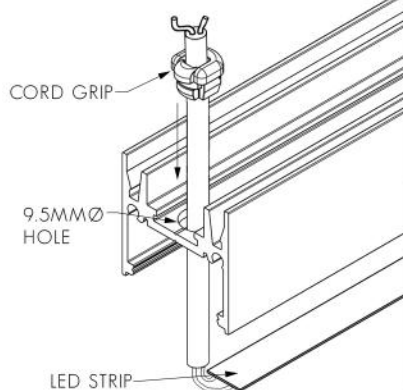

FIG. 2 - MAKE ELECTRICAL CONNECTION
2. MAKE ELECTRICAL CONNECTION: CONNECT LED STRIP TAILS TO LED DRIVER (SEE FIG. 2 IF SUPPLIED WITH MALE/FEMALE CONNECTORS).